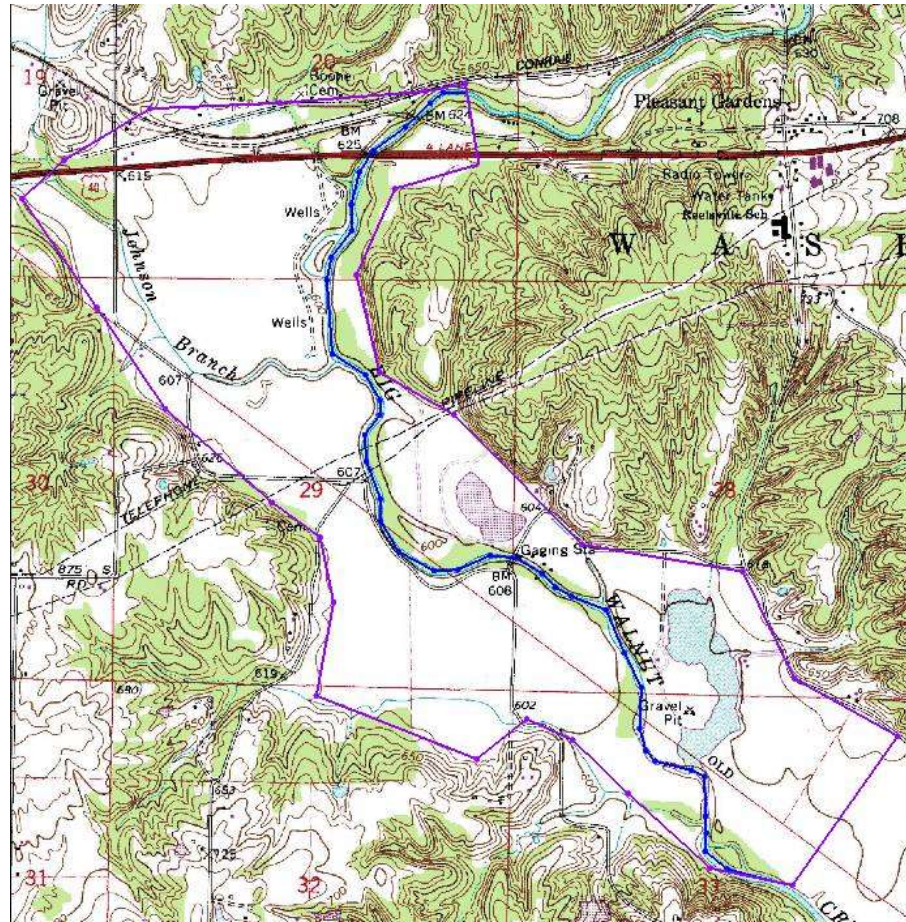

Figure 5 Modeling the river
7. Click out the river arc starting near the northern specified head boundary and ending near the southern specified head boundary, as shown in Figure 5 below. Don’t extend the river beyond the boundary coverage.